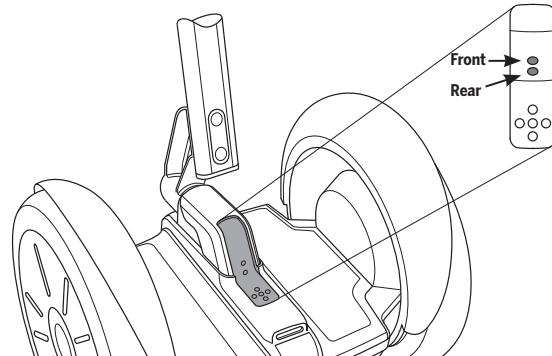

Figure 58: Battery Charge Indicator Lights
6. Verify that the two Charge Indicator lights on the Console illuminate green to confirm the Batteries are charging (see **Figure 58**). For more information on the Charge Indicator lights, see "Battery Charge Indicator Lights," p. 89.
Two Battery Charge Indicator lights on the Console indicate the charge status of the Batteries when the PT is plugged in. The front Battery Charge Indicator light corresponds to the front Battery and the rear Battery Charge Indicator light corresponds to the rear Battery (see **Figure 58**). The Battery Charge Indicator lights provide independent information regarding whether each Battery is charging. When the PT is plugged in and charging, both Battery Charge Indicator lights will be flashing or solid green. If one or both Battery Charge Indicator lights is red or fails to illuminate, there is a charging problem with the corresponding Battery. For more information, see "Charging Failures" below.